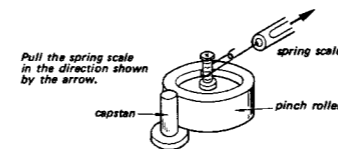
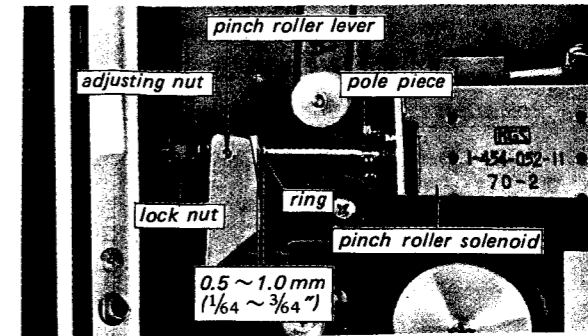

Fig. 3-1-6. Pinch roller pressure adjustment
Fig. 3-1-7. Pinch roller pressure adjustment
(See Fig. 3-1-6 and Fig. 3-1-7.)
- (1) Remove the reel panel referring to "Panel Removal" on page 14.
- (2) Place the unit in the STOP mode.
- (3) Push the pole piece of the solenoid into its housing by the hand, and make sure that the clearance between the ring and the pinch roller lever is 0.5 ~ 1 mm (1/64 ~ 3/64").
- (4) Make a loop with a piece of string and attach the spring scale to the pinch roller shaft with the loop of string. See Fig. 3-1-6.
- (5) Hold the actuator so that the SHUT-OFF switch is activated (a rubber band or piece of masking tape will hold the actuator as though tape were threaded on the unit).
- (6) Place the unit in the PLAY mode.
- (7) Pull the scale horizontally in the direction shown by the arrow. The capstan shaft, pinch roller and the scale should be in a line.
- (8) Check a scale reading when the pinch roller just leaves the capstan shaft.
- (9) Adjust the adjusting nut so that a scale reading is between 1 kg and 1.4 kg (2.2 lb and 3.1 lb).
- (10) Make sure that the solenoid operates normally when a mode is changed from the PLAY to the STOP and vice versa several times. If the tape slips, readjust the above steps.
- (11) Lock the adjusting nut with the lock nut.
- (12) Apply lock paint to the nuts.